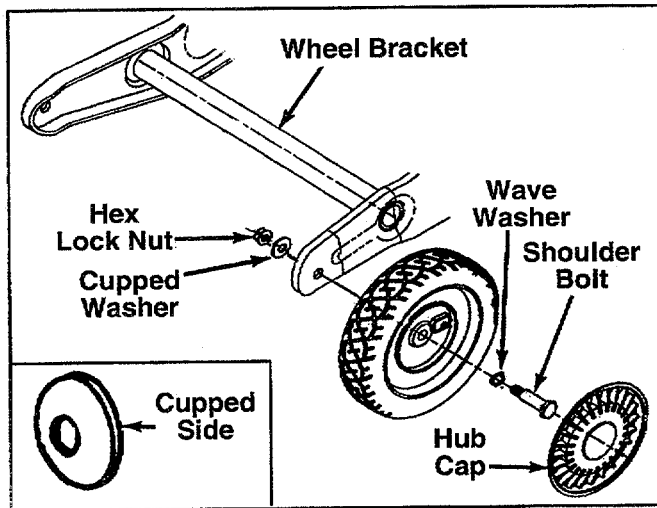

FIGURE 2.
- Remove the hex lock nuts and shoulder bolts from the front of the wheel brackets. See figure 2.
**NOTE:** Cupped side of the washer goes against the chipper chute. See figure 2 to identify cupped side of washer.